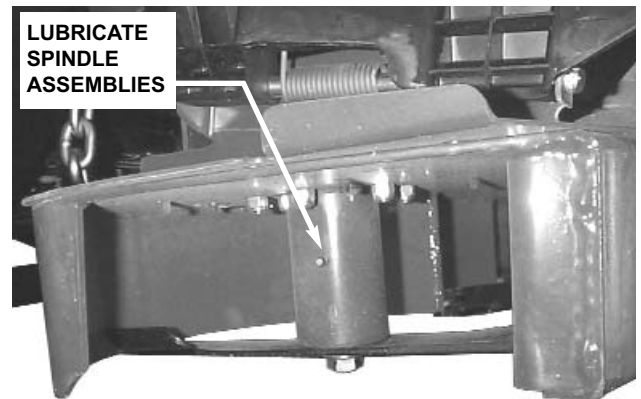

FIGURE 4.4
- b. Lubricate with Kendall NLGI No. 2 lithium grease or equivalent, from a grease gun. Grease fittings are located on spindle housings underneath deck. See Figure 4.4.